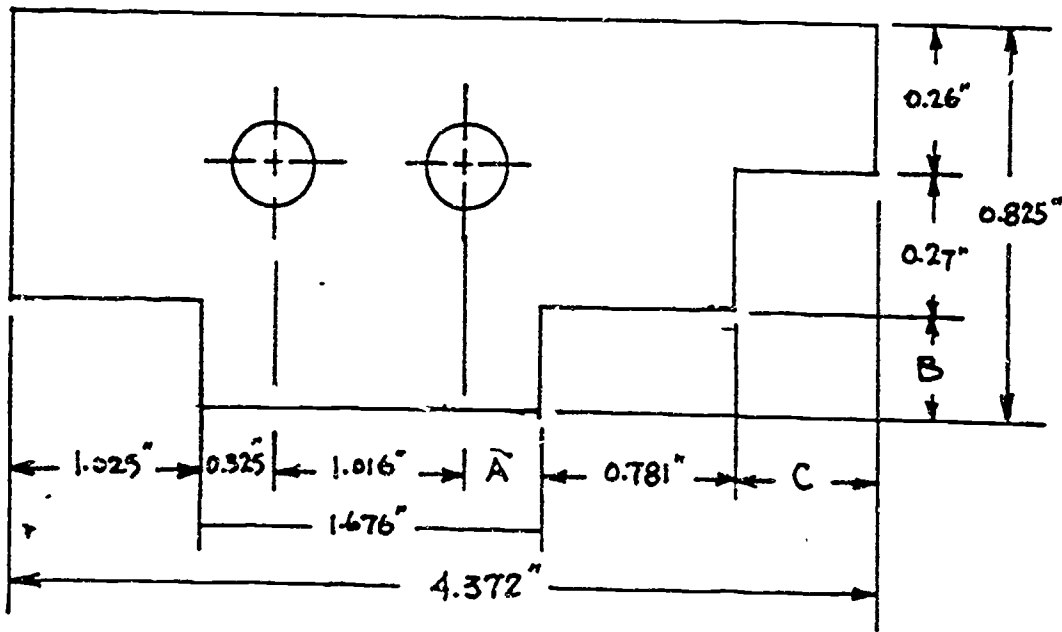

Figure 10: Find the dimensions of A, B and C.
10. You are to make a precision gage from a sketch given to you by your Instructor. Look at Figure 10. Before you can lay it out for cutting, you find you need to figure out some missing dimensions. What are the dimensions of A, B and C?